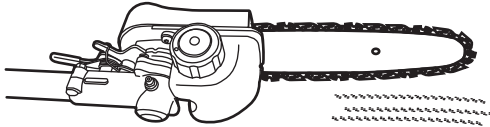

Fig. 9
- a). Make sure the guide bar (7) and the saw chain (6) are in place when you check the oil delivery.
- b). Start the engine; keep it running at medium power and check if the chain oil is delivered as shown in the figure. (See Fig. 9)